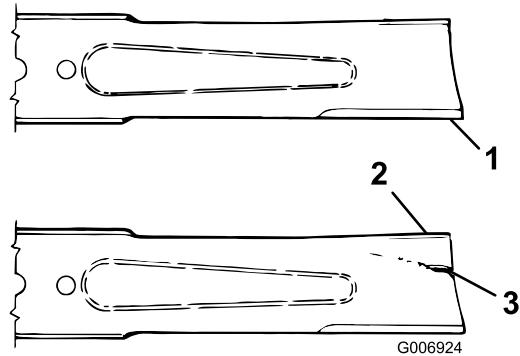

Figure 17
3. Examine the cutting ends of the blade carefully, especially where the flat and curved parts of the blade meet (Figure 17).
4. If wear is noticed (Figure 17), replace the blade; refer to Servicing the Blade Plane (page 11).
If the blade is allowed to wear, a slot will form between the sail and flat part of the blade (Figure 17). Eventually a piece of the blade may break off and be thrown from under the housing, possibly resulting in serious injury to yourself or bystanders.